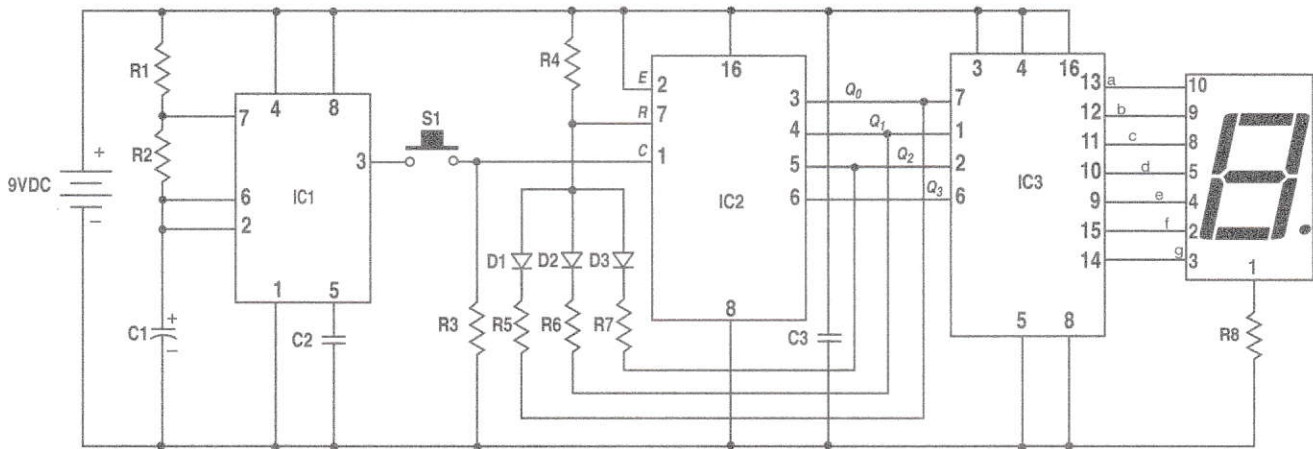

Figure 2 - Schematic Diagram
is always Low (0) unless all the inputs are High. When this happens, the output goes High. Notice in figure 2 that the three inputs of the AND gate are connected to outputs Q0, Q1 and Q2 of the counter. As the counter process advances from 0000 (0) and up, all the inputs will be High (1) only when number 7 (0111) is reached. For all other numbers between 0000 (0) and 0110 (6), there will always be at least one Low (0) on one of the inputs. This, in turn, forces the output of the NAND gate to be Low (0) and to apply this Low (0) to the reset input of the counter (pin 7/IC2). But, when the counter generates the number 0111 (7), the three inputs become High. This makes the output of the AND gate go High and apply this positive voltage to the reset input of the counter (pin 7/IC2), resetting the counter to 0000, and starting the counting sequence again.